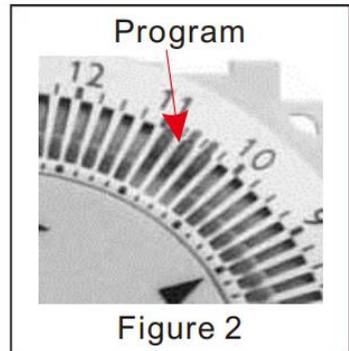

Figure 2
2. Push the segments outwards for working on. Each segment represents 15 minutes. E.g., You want to let the electric apparatus work during 10:15 –11:00. Push three segments outwards between 10:15 and 11:00 (see figure 2).